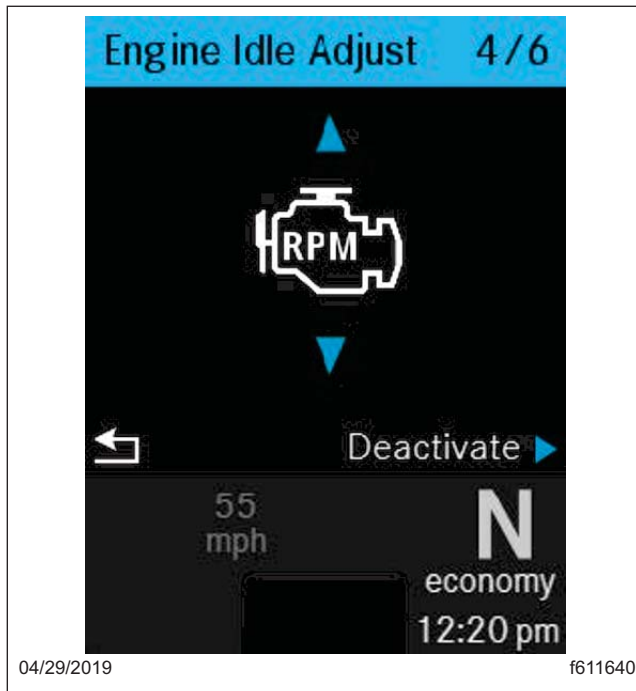

Fig. 3.27, Quick Access Screen: Engine Idle Adjust
- Engine Idle Adjust (See Fig. 3.27.)
This feature allows the increase or decrease of the base engine idle speed. See Fig. 3.27. Increasing the base engine idle might be necessary to generate enough power to operate accessories.